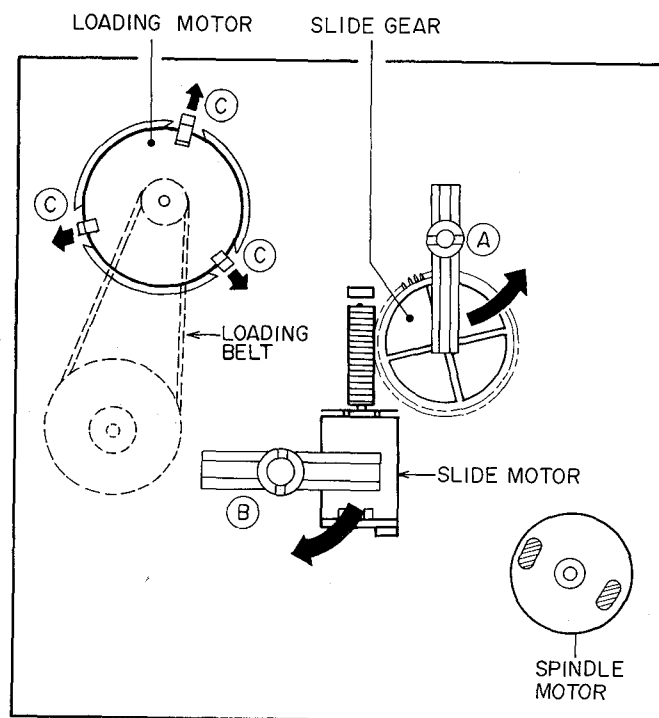

Fig. 6-1
- 2) Extend motor holders ©, at the same time, push the loading motor from pulley side, then remove the loading motor. (Fig. 6-1)
- 1) Turn the motor lock lever ⑥ clockwise.
- 2) Pull out the slide motor. (Fig. 6-1)
- 1) Turn the gear hold lever ④ counterclockwise. (Fig. 6-1)